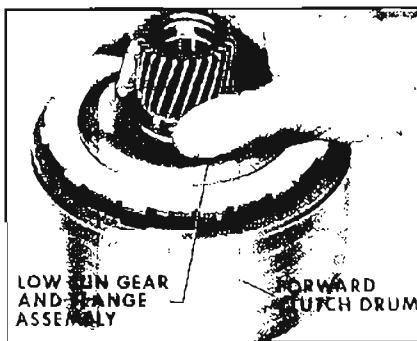

Figure 5-210
2. Remove low sun gear and flange assembly. See Figure 5-210.